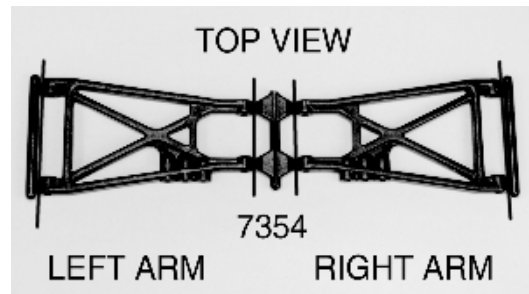
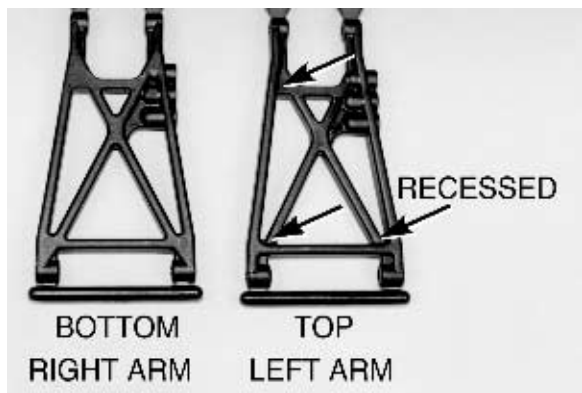

Fig. 94
Fig. 95
□ **Figs. 94, 95, 96 & 97** Go back to the suspension arm bag and remove the #7354 rear suspension arms. Fig. 94 shows you which arm is left and right and where to remove the arms from the part mold runners. Fig. 95 shows you which side is top and bottom. **WARNING!! It is very important that you make sure you can tell the difference between the top and bottom sides of the rear suspension arms. If the arms are installed upside down the axles will rub on the arms, causing wear and possible damage. The bottom side of the suspension arm will be the same height all the way across. the cross "X" portion on the top side will be slightly recessed.**
(4) Starting with the left rear mount and suspension arm (fig. 94 will remind you which is the left suspension arm), align the pin hole in the left rear mount with the inner pin holes of the left rear suspension arm. This will place the shock mount on the same side as the square end of the rear suspension mount. (5) Now slide the rear inner hinge pin